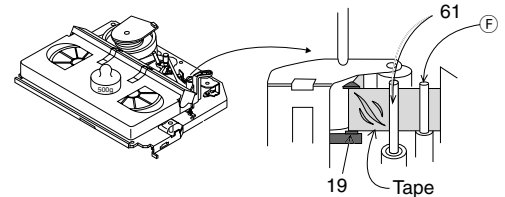

Fig. 29
- With the tilt adjustment screw (Pos. 220, Fig. 30) position the lower edge of the tape correctly on the guide roller (Fig. 29) (the tape must not curl at the lower edge).